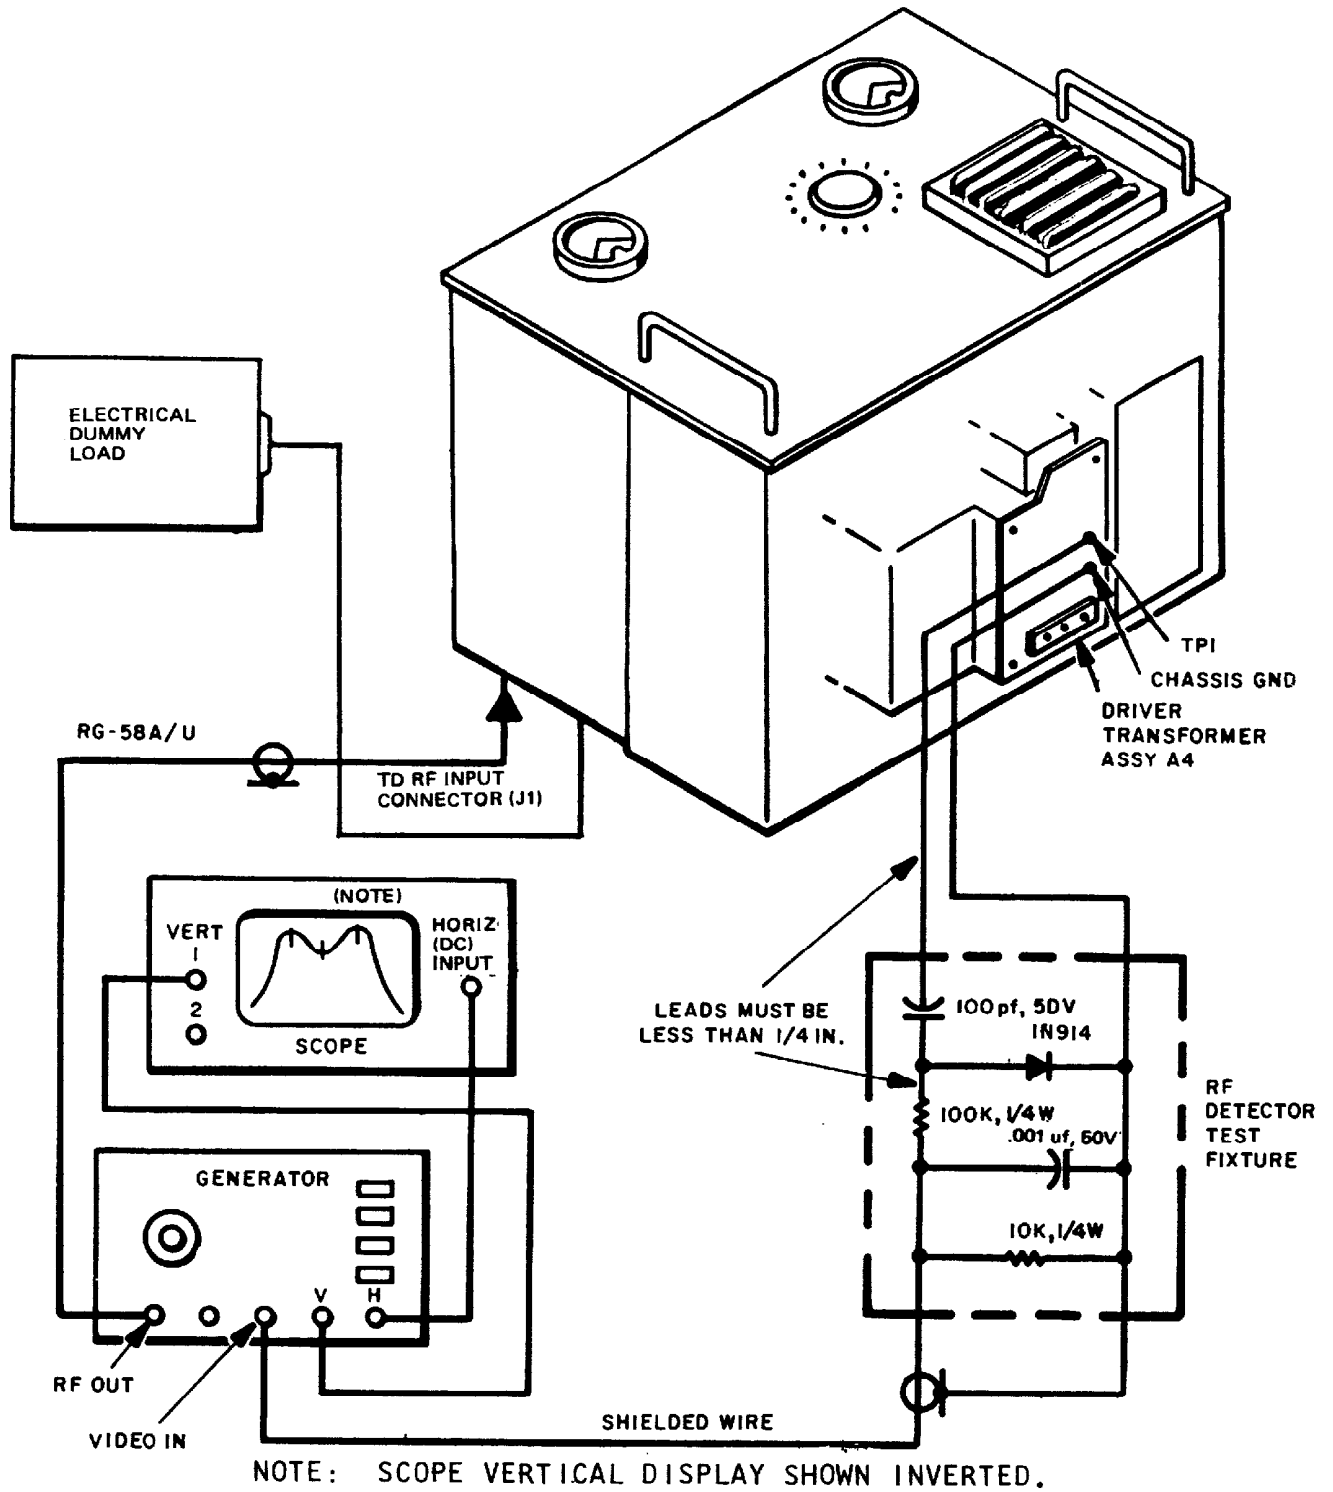

Figure 5-1. Driver Transformer Alignment, Test Setup
c. RF Detector Test Fixture (figure 5-1). This test fixture may be purchased from RF Communications (part no. 1001-0041) or fabricated from standard parts. If fabricated, the components should be mounted on a surface no larger than 1/2 by 3/4 inches, with lead lengths no longer than 1/4 inch.
f. Locate TP1 on the Driver Transformer Assembly (bottom rear of the unit). Connect the RF detector to TP1 as shown in figure 5-1. The output from the RF detector is delivered to the sweep generator VIDEO IN via shielded wire or coaxial cable.